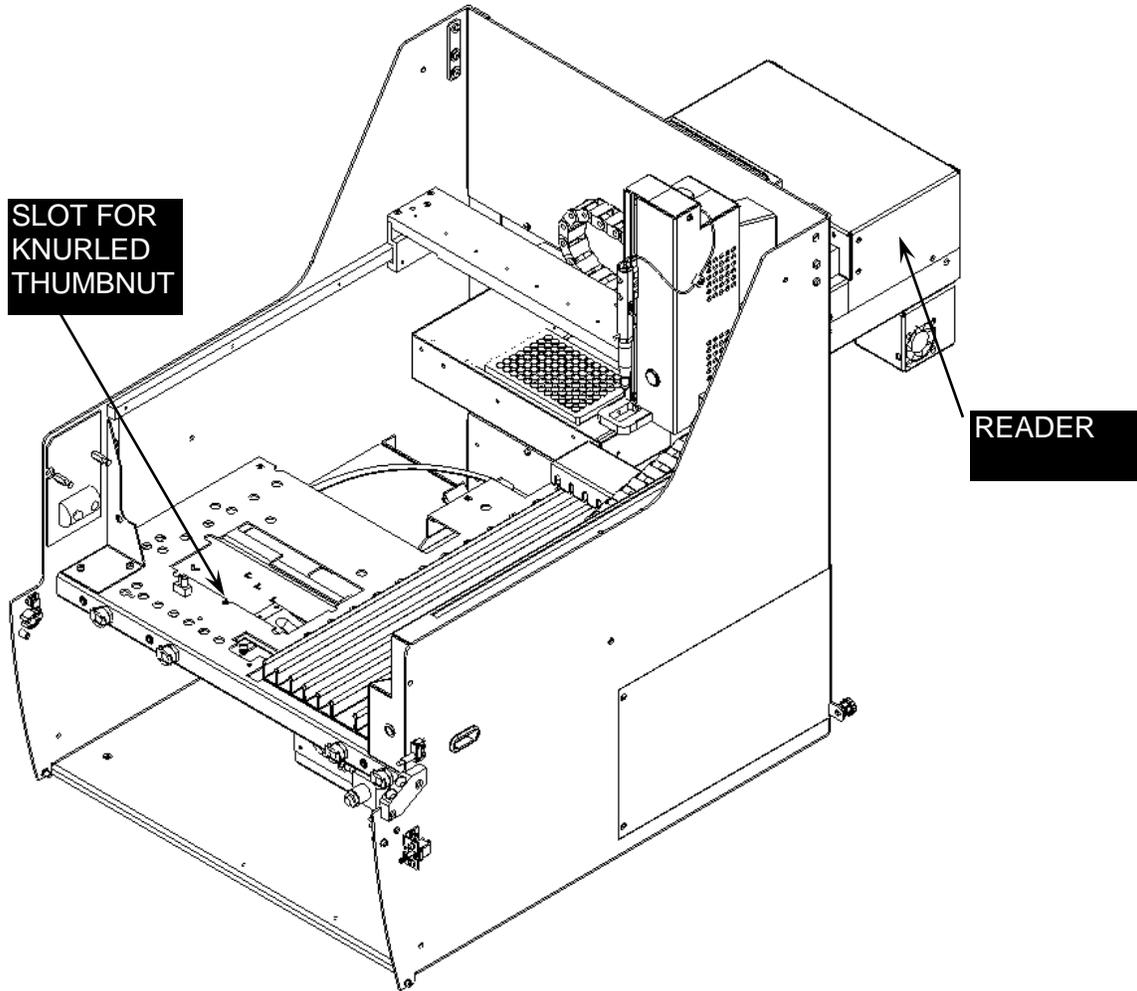

Figure 12-3: Reader Access
2. Unscrew the knurled thumbnut that attaches the reader to the Workspace Plate (Figure 12-3).